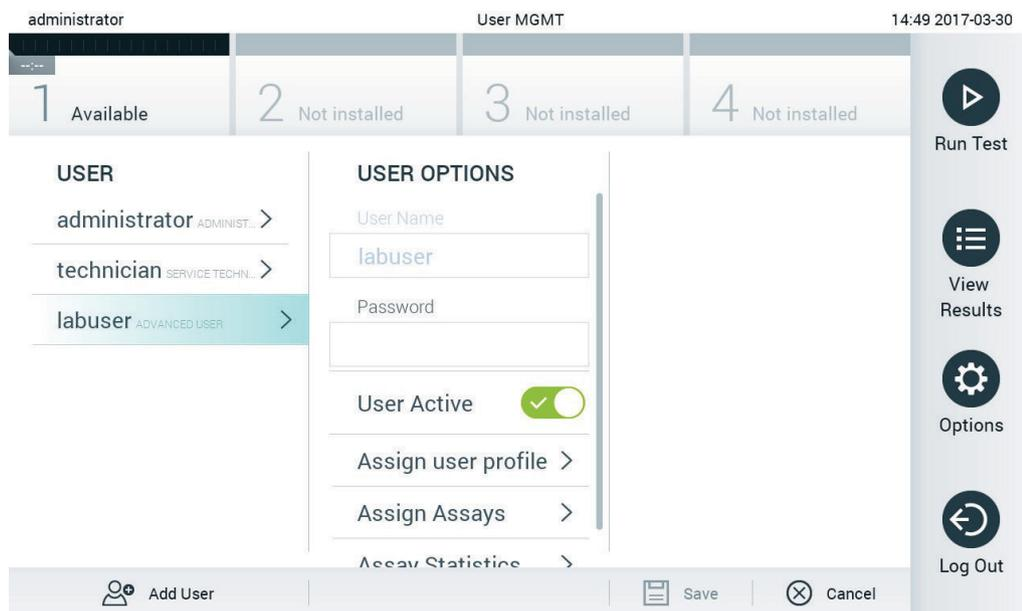

Figure 59. Selecting and managing users.
2. Select the user to manage from the list in the left column of the content area (Figure 59).